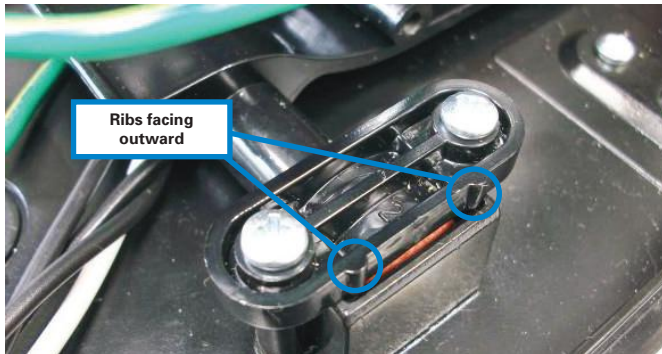

Figure 10
7. Reinstall the **two (2)** screws and plastic housing retainer onto the foot of the dryer removed in Step 5. Make sure that the ribs on the housing retainer are facing outward (facing away from the dryer - **Figure 10**).